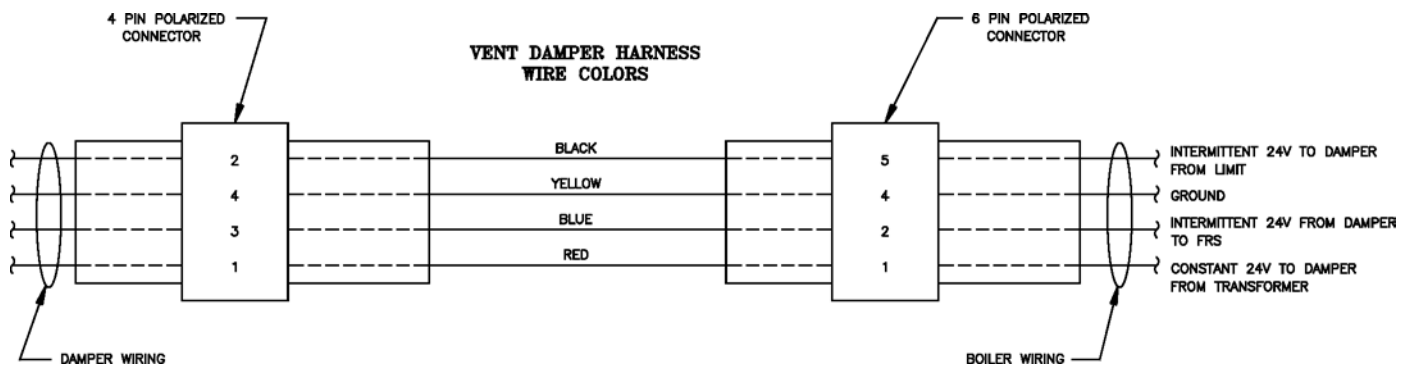

Figure 26: Vent Damper Schematic Wiring Diagram
F. Vent Damper Sequence of Operation. See Figure 26 for schematic wiring diagram.